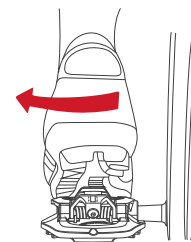

Figure 5. Twist laterally to disengage
- To disengage the shoe from the pedal, twist your heel laterally away from the bike (Figure 5).